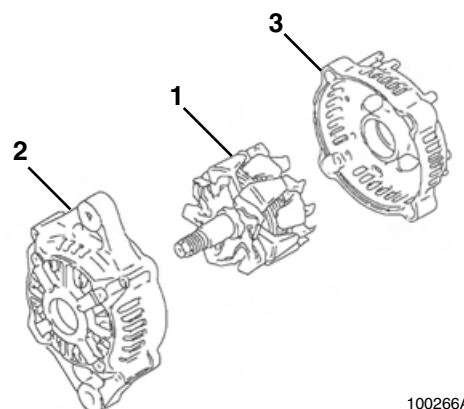

Figure 12-9
8. Using a press, remove the rotor assembly (**Figure 12-9, (1)**) from the front frame housing (**Figure 12-9, (2)**) and rear frame housing (**Figure 12-9, (3)**).